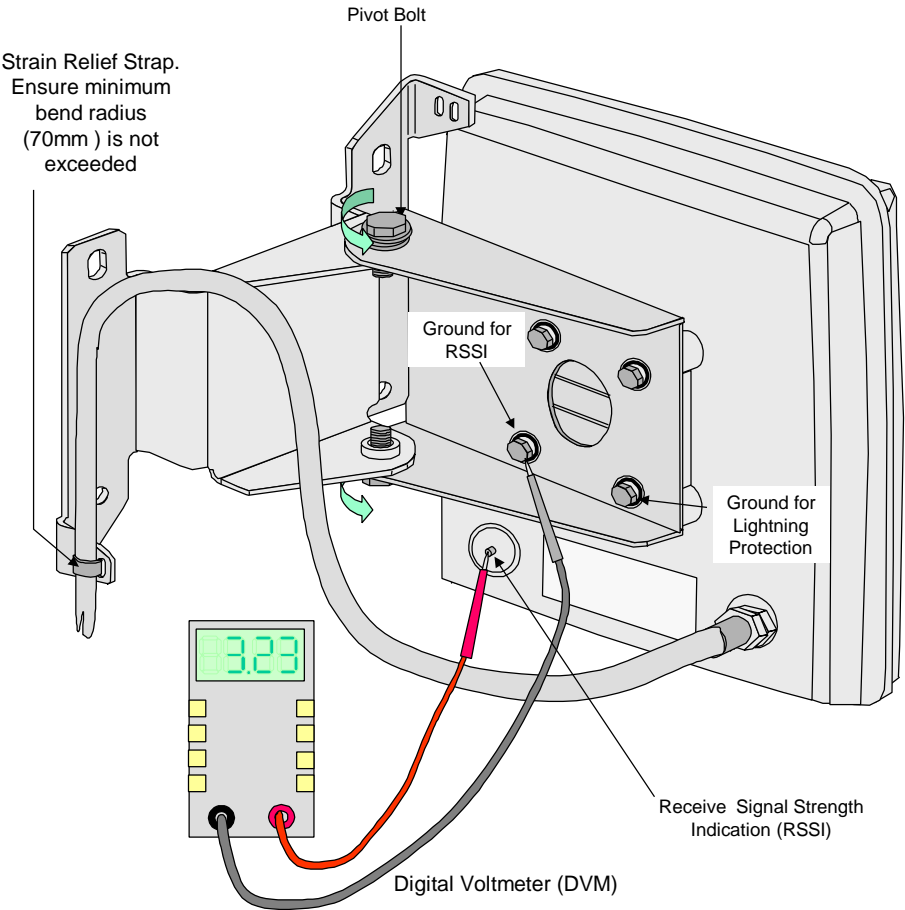

Figure 66. Panning Bracket Mount Antenna
3. Using the DVM, measure the DC voltage between Ground and the Receive Signal Strength Indicator (RSSI) Monitoring point on the Antenna (see Figure 66). The voltage measured is a relative indication of the received signal strength; The lower the voltage the weaker the RX signal, and vice versa. A reading of 1.4volts or greater indicates a viable link. A more accurate indication of signal strength can be view using STMON connected to the SIU.